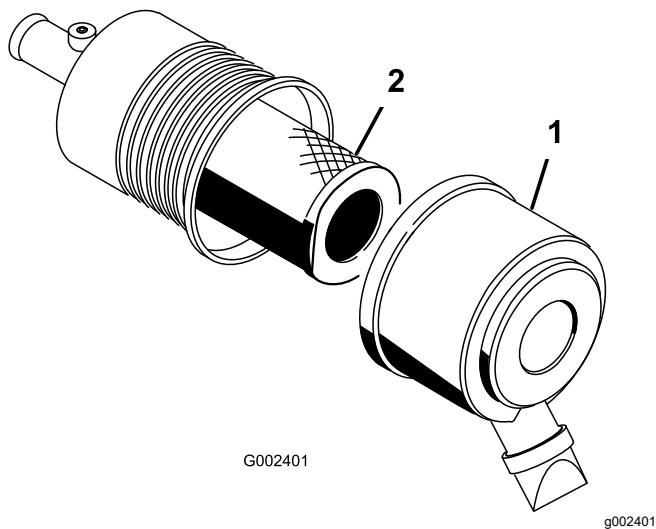

Figure 97
1. Release the latches on the air cleaner and pull the air-cleaner cover off the air-cleaner body (Figure 97).
3. Gently slide the filter out of the air-cleaner body (Figure 97).
5. Carefully slide the filter over the body tube (Figure 97).
6. Install the air-cleaner cover with the side facing up, and secure the latches (Figure 97).